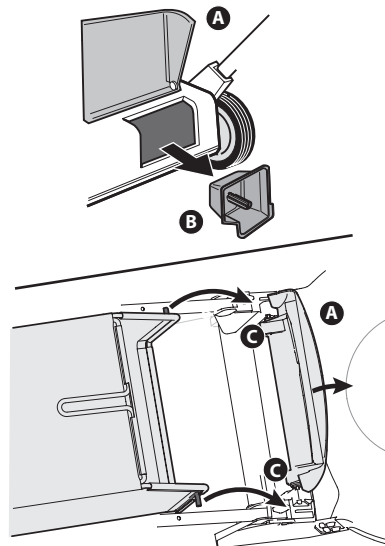

Figure 2-7
2. Follow steps below to attach grass catcher. See Figure 2-7.